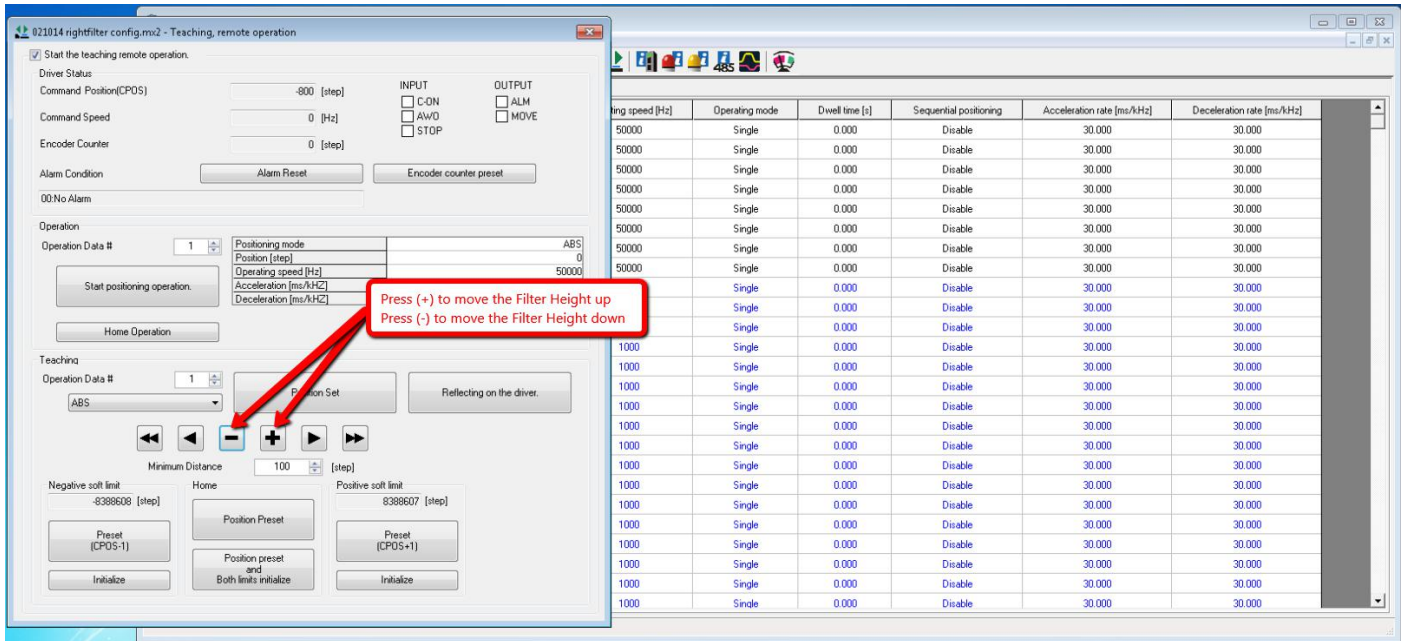

Figure 24 Manually trigger to move the filter height motor up and down
21. i. Manually trigger (+) and (-) to move the height of the Filter Height Motor. (Figure 24)